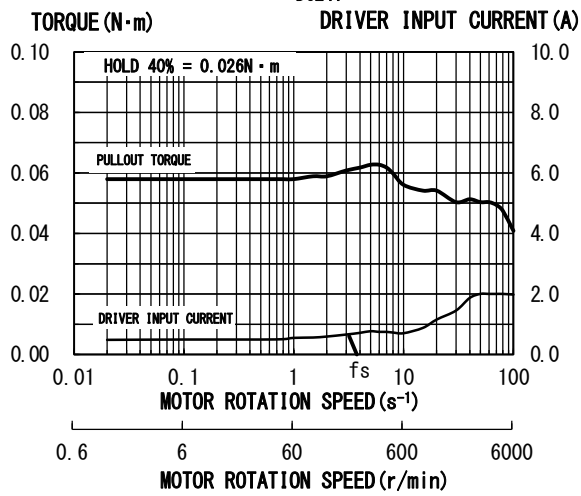

Fig. 6
| | PKP525N12A (B) | 1.2 | 3 | OFF | OFF | OFF | OFF | ON | Fig. 6 |